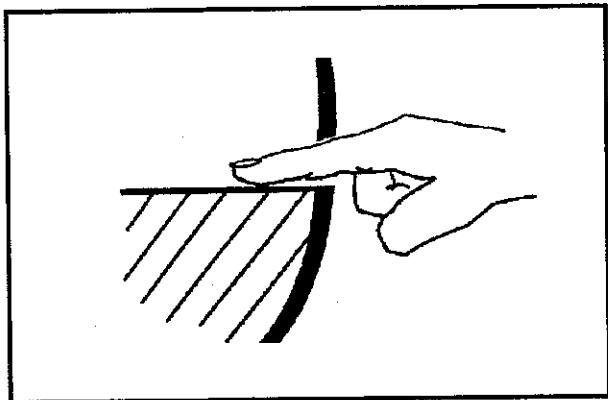

Figure 33—Fill Axle Housing
12. Fill housing to proper level. (See Figure 33—Fill Axle Housing.)